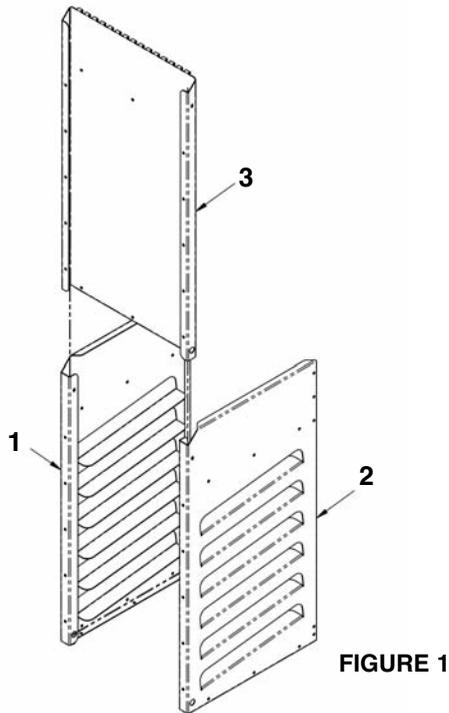

FIGURE 1
1. Lay the rear panel (#3) on a flat surface with the outer flanges facing up. Remove the four screws that retain the two handle bar support tubes (#12) and remove the tubes. Position the left and right side panels (#1 & #2) on end as shown in figure 1. Slide the rear panel (#3) into the channel of both side panels making sure the hinged end is goes up.